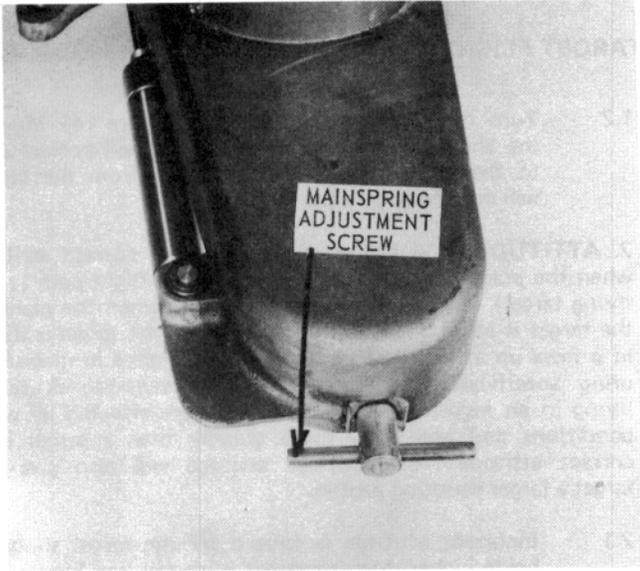

Figure 17 — Mainspring Adjustment Screw
3. **DISTANCE** — Length of the target flight is determined by the mainspring tension. **BEFORE ADJUSTING THE MAINSPRING TENSION**, the trap should always be "Safe Released", as discussed in Section II, and the power cord unplugged from the wall. This will prevent possible injury and will decrease the spring tension and make adjustment easier. The mainspring adjustment screw is located at the front of the trap (see Figure 17) and should be turned clockwise to increase tension and consequently the length of target flight.